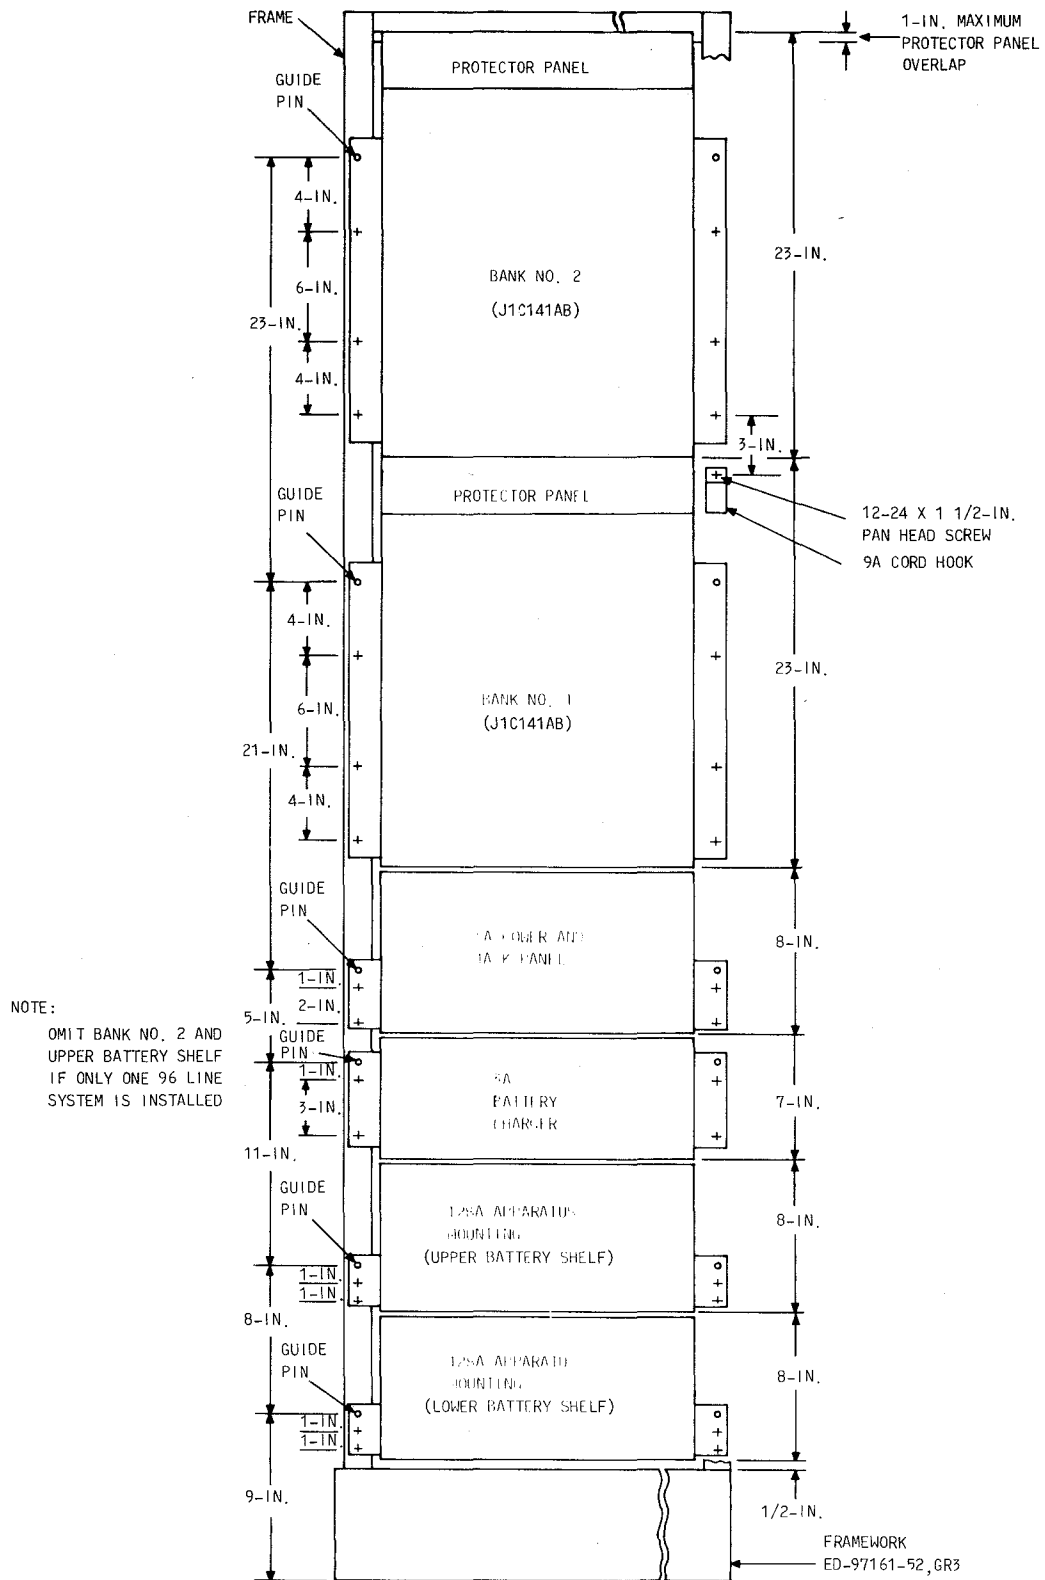

Fig. 2—Securing Shelves to Frame
3.02 Starting at the bottom of the frame, position the shelves over the guide pins and attach to the frame uprights, using the screws furnished with each shelf. See Fig. 2.
8.01 The 9A cord hook should be mounted in the 55th mounting hole from the bottom of Bay No. 1 with a 12-24 X 1/2 inch pan head screw (Fig. 2).